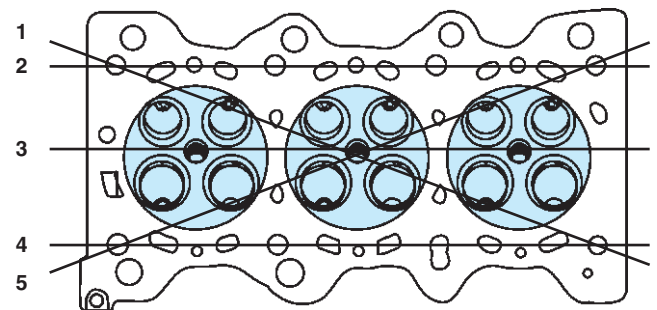

FIGURE 22-24 Cylinder heads should be checked in five planes for warpage, distortion, bend, or twist.
Step 2 The head should be checked in five planes, as shown in Figure 22-24. Checking the cylinder head gasket surface in five planes checks the head for **warpage, distortion, bend, and twist**.